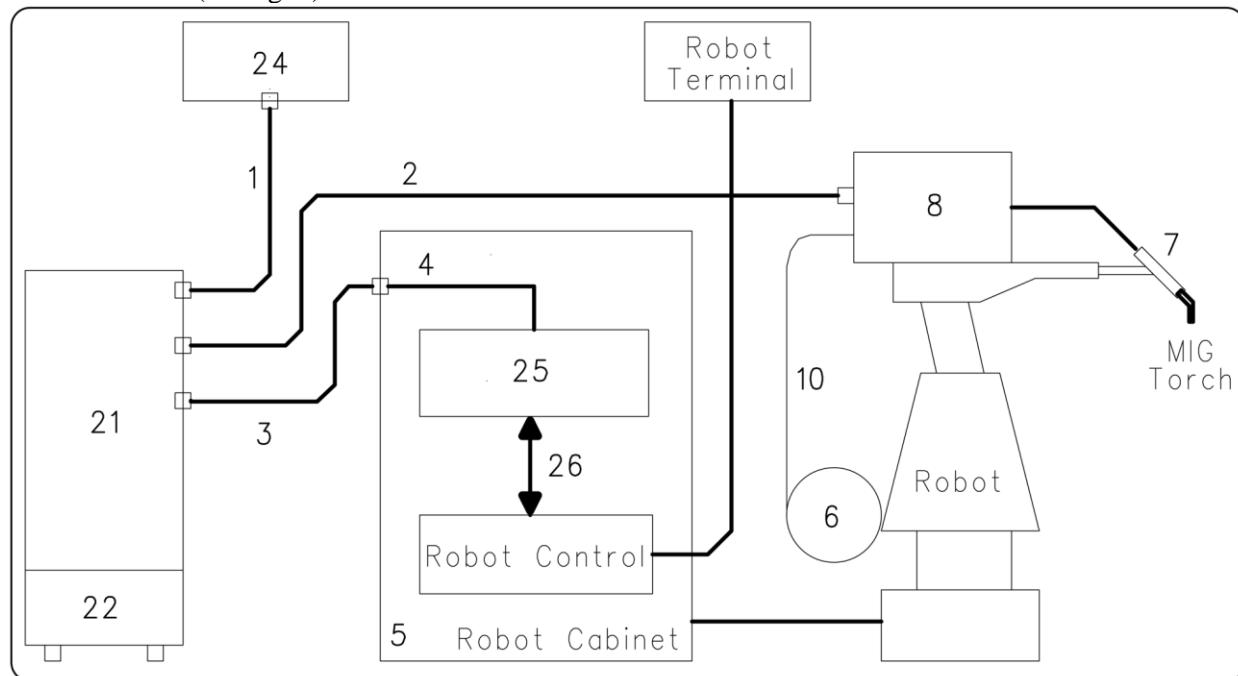

fig. 1
It comprises a power source, possibly equipped with cooling unit, a wire feeder, a control panel and a Robot Interface (see fig. 1).
3.2 Power Source installation (fig. 1).